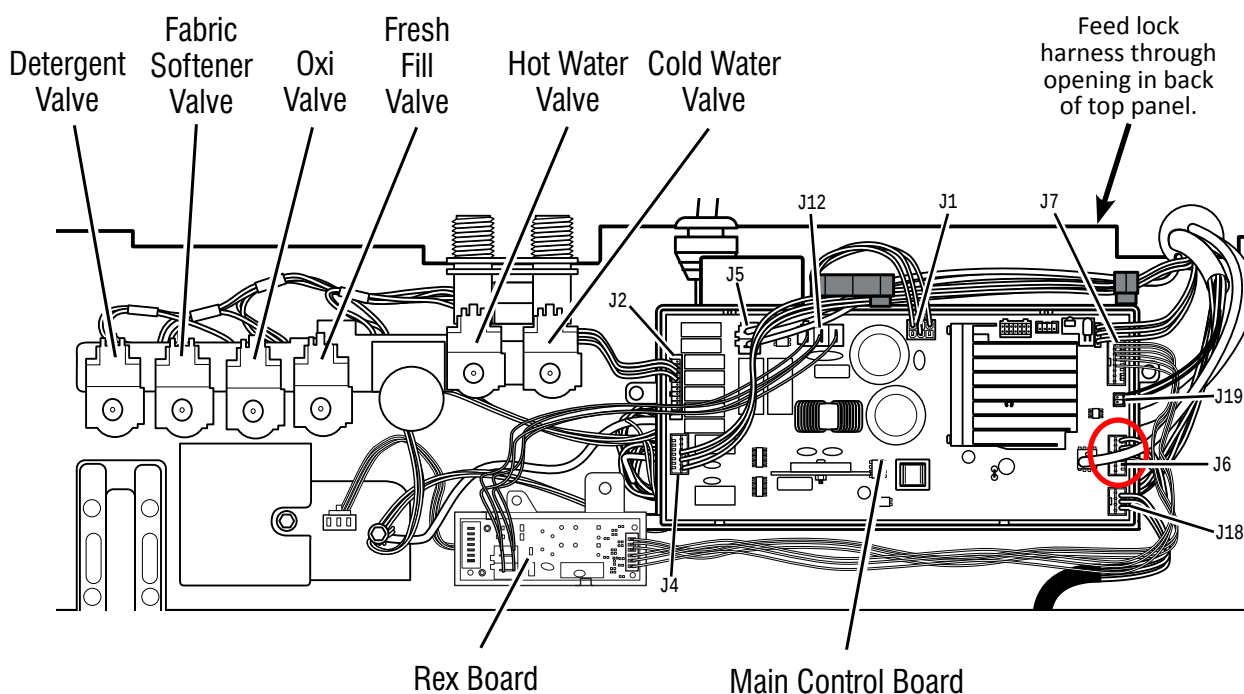

Figure 1
6. Feed the Lid Lock harness through opening in back of washer top panel (see Figure 1).